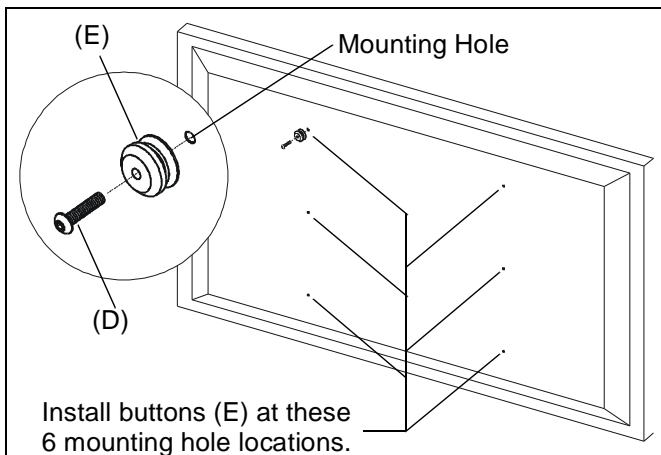

Figure 1
1. Using M5 hex key (K), insert M8x25mm button head cap screw (D) through mounting button (E) and install into threaded mounting hole on back of display (See Figure 1). Tighten securely.
**NOTE:** Mounting buttons are pre-installed on optional interface bracket. PSH-2000 items (D) through (H), and key (K)(See Figure 1), will not be used with optional interface bracket.